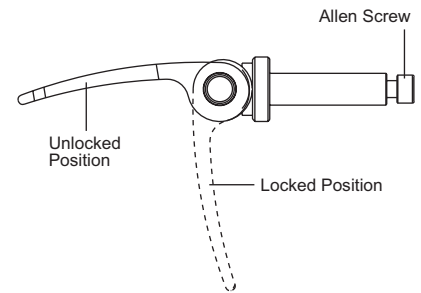

Figure 80
1. Release the handle on the skewer to the unlocked position. See Figure 80.